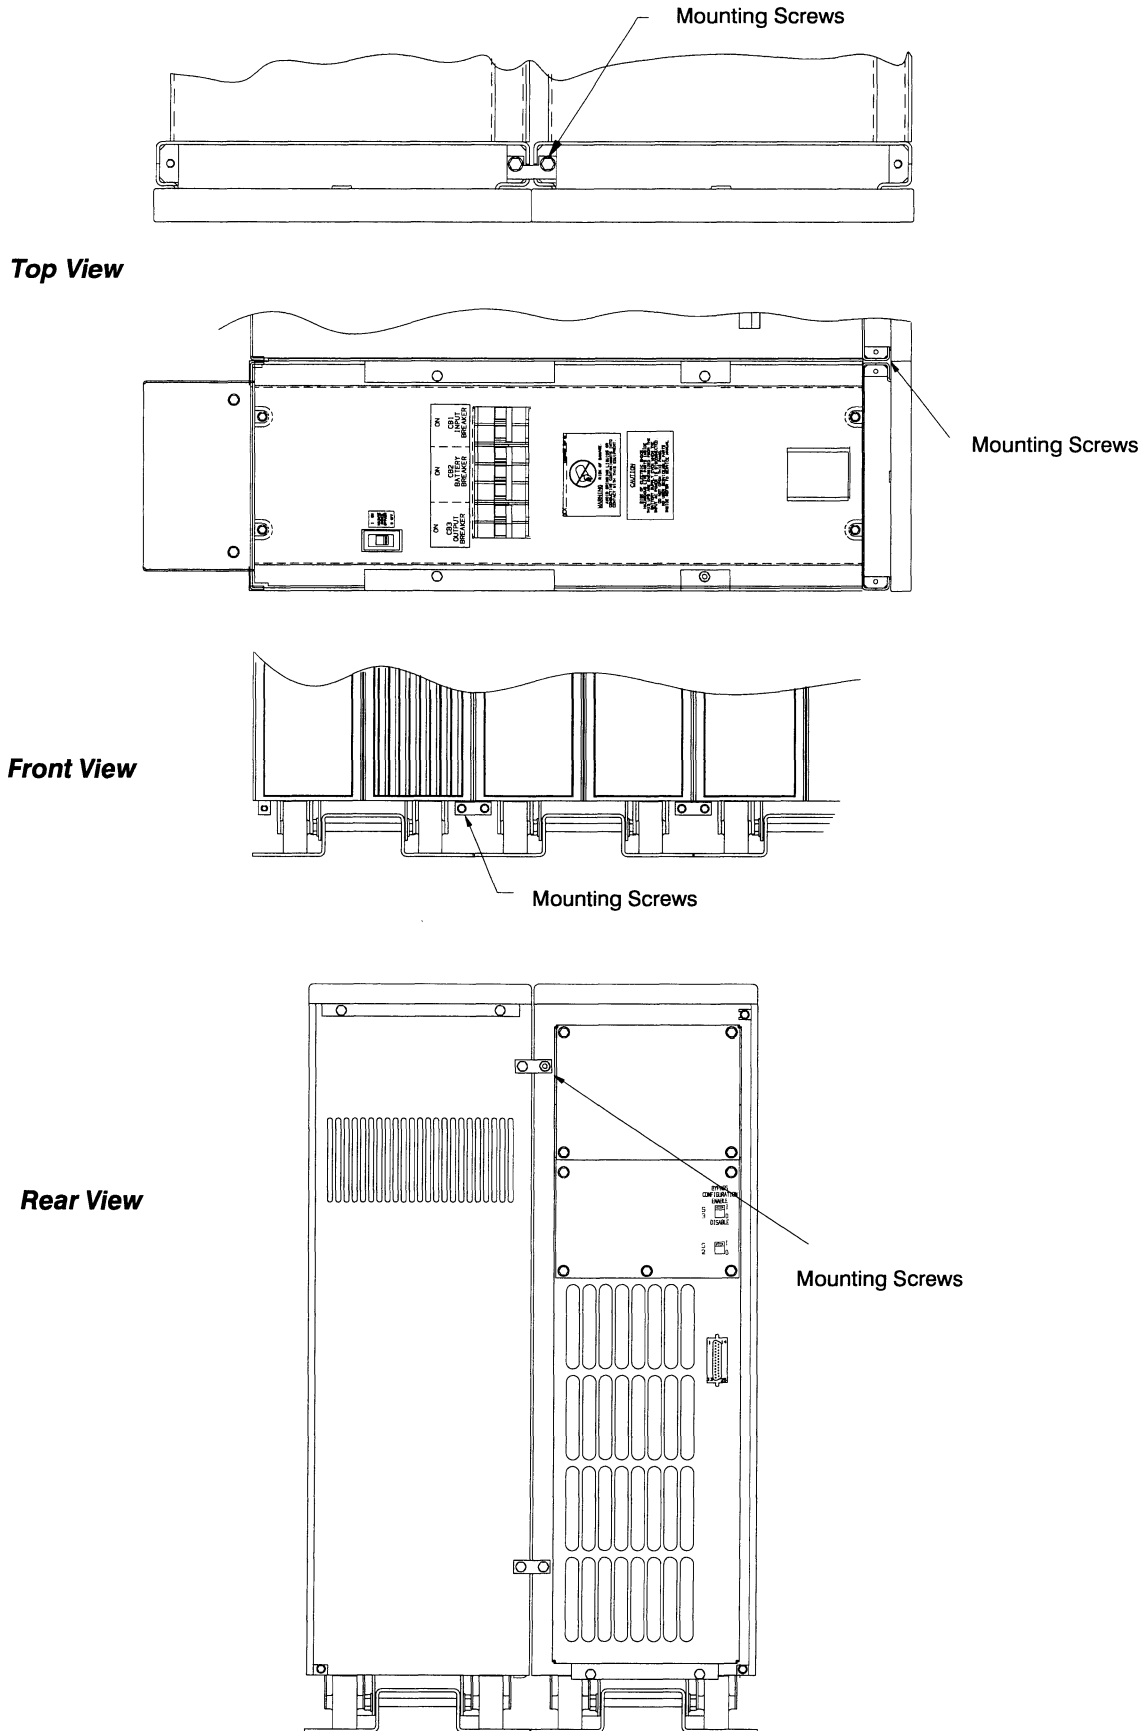

Figure 15. Joining the Cabinets (Top, Front, and Rear View)
17. Join the cabinets together in four places as shown in Figure 15.